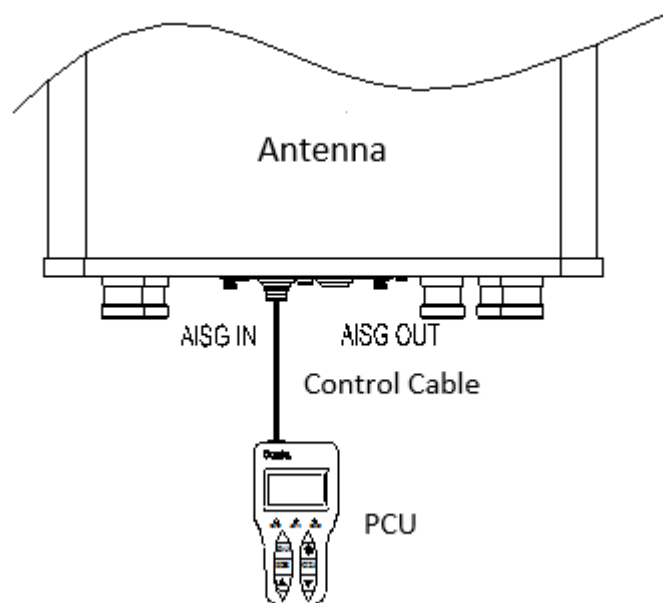

Figure 4 AISG Control Cable to PCU
- c) As shown in Figure 4, connect the control cable to the AISG Connector located at the lower part of the MIRCU and tighten the connector.